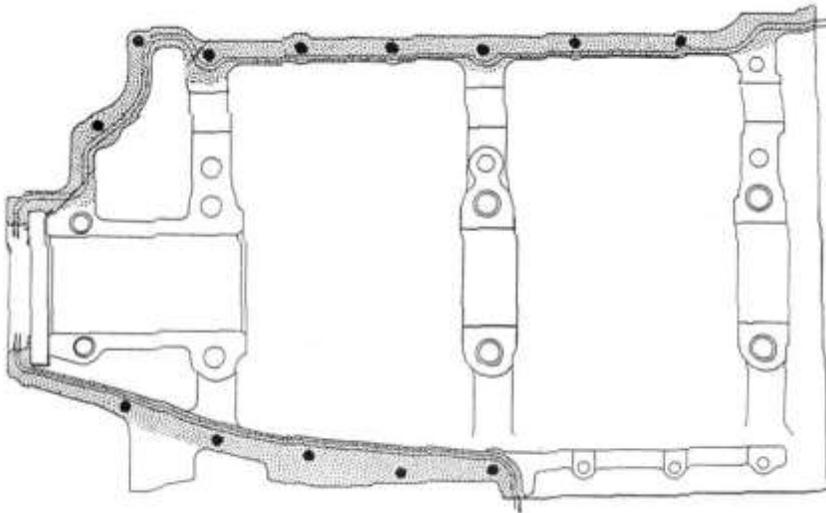

Figure 82
- (1) Apply a thin layer of non-hardening gasket material such as POB #4 Perfect Seal gasket compound or equivalent to the outside mating surfaces of each crankcase half (darker area shown in Figure 82.)
- (2) Measure and cut a total of four continuous lengths of "00" silk threads (four for only one crankcase half). Two of the lengths will extend along the entire length of the top of the crankcase flange as shown in Figure 82, and two silk thread lengths will be shorter to cover the distance shown on the bottom flange of the same crankcase half. Do not apply silk thread pairs to both crankcase halves.
⚠ CAUTION: TO ENSURE CORRECT SEALING, MAKE SURE THE SILK THREADS RUN THE LENGTH, AS A CONTINUOUS PIECE, OF THE INSIDE OF THE CRANKCASE FLANGE (FIGURE 82) AND THERE ARE NO BREAKS IN ANY OF THE THREADS. BREAKS IN THE SILK THREAD CAN CAUSE THE CRANKCASE TO LEAK.
- (3) Press two lengths of "00" silk threads in the gasket compound on the top and bottom flange sides (of the crankcase half) (Figure 82) firmly in the gasket compound where both silk threads are oriented in the area between the bolt holes and the inside flange edge of the crankcase half (approximately between 0.020 to 0.040 in. (0.508 to 1.106 mm) apart as shown in Figure 83. Make sure that the silk thread lengths do not touch or cross over one another or cover a bolt hole.